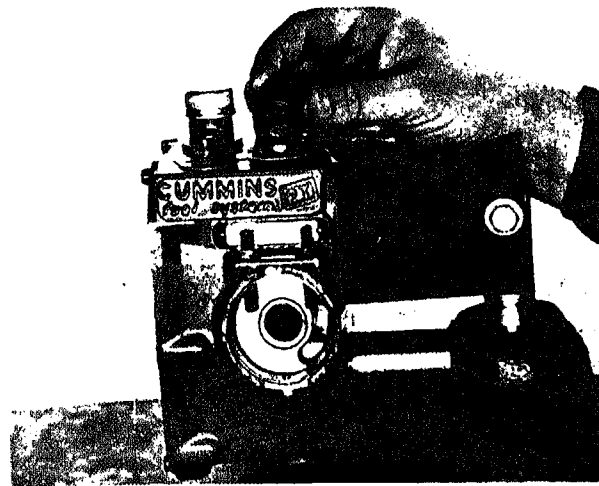

Fig. 510-2 Installing filter assembly
1. Assemble the filter screen assembly into the housing, the hole in the bottom retainer goes down. Fig. 510-2.